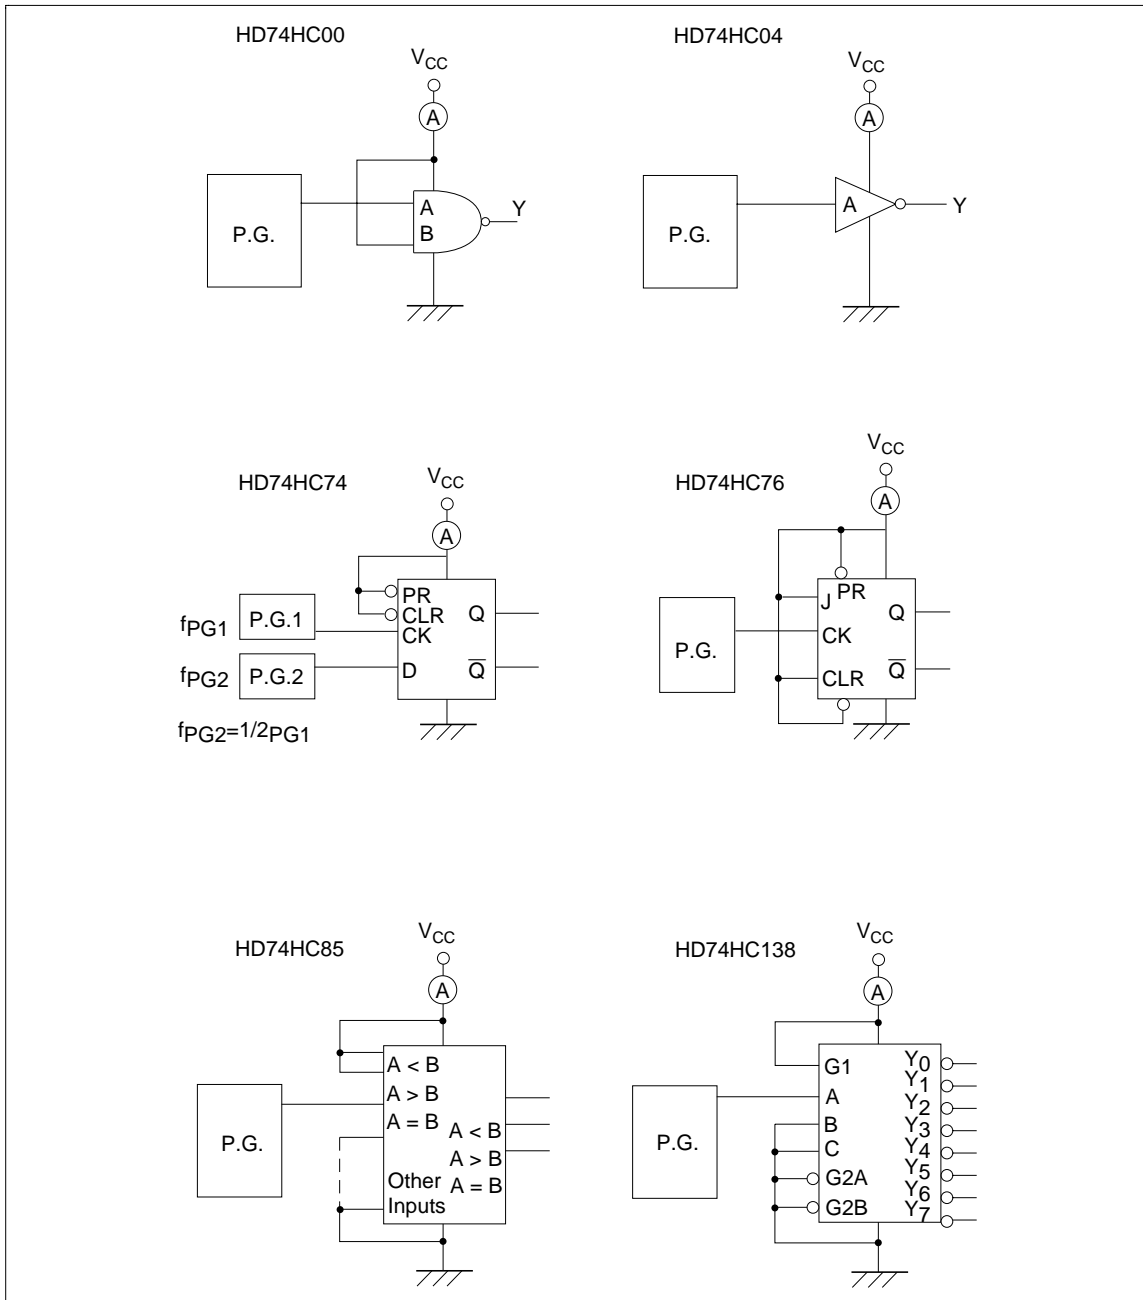

Figure 14 Measurement Circuits for Dynamic Power Supply Current
2. Measurement circuit is shown in figure 14.